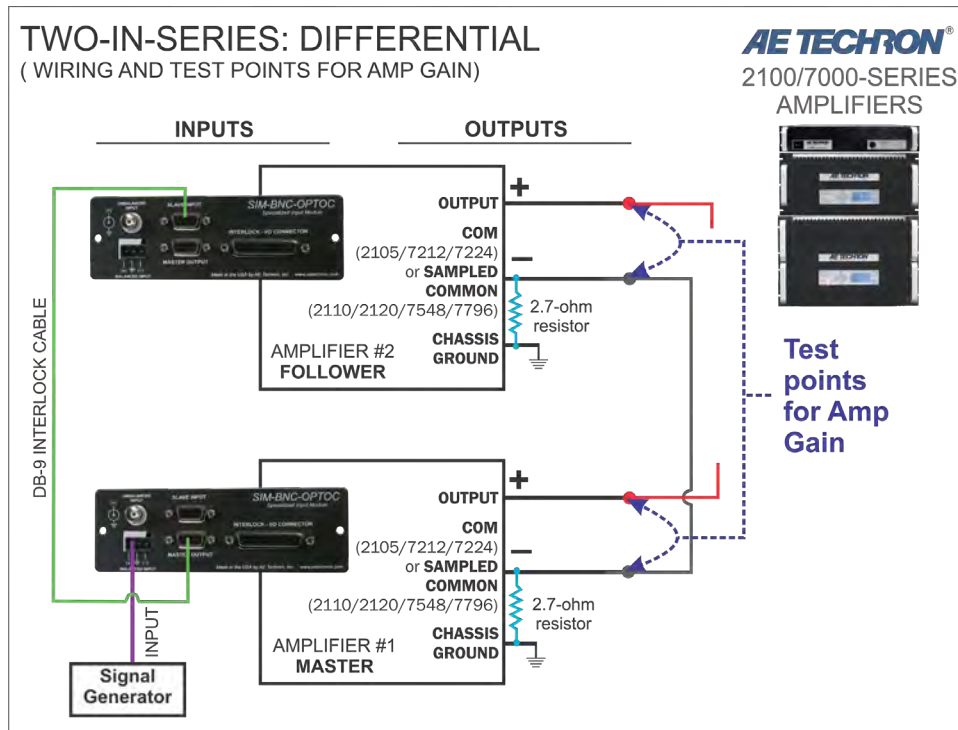

Figure 3.11 – Verifying Amp Gain
2. Enable the amplifiers (place in Run mode), and then apply a sine wave of 5 Vrms at 100 Hz at the Master amplifier input. Using a voltmeter, measure across each amplifier’s back-panel output connector terminals (OUTPUT to COM or SAMPLED COMMON) to verify an output from each amplifier of approximately 100 Vrms (gain of 20). See **Figure 3.11**. NOTE: If any amplifier’s gain varies significantly from the set gain of 20, the amplifier may require servicing. Contact AE Techron Technical Support.